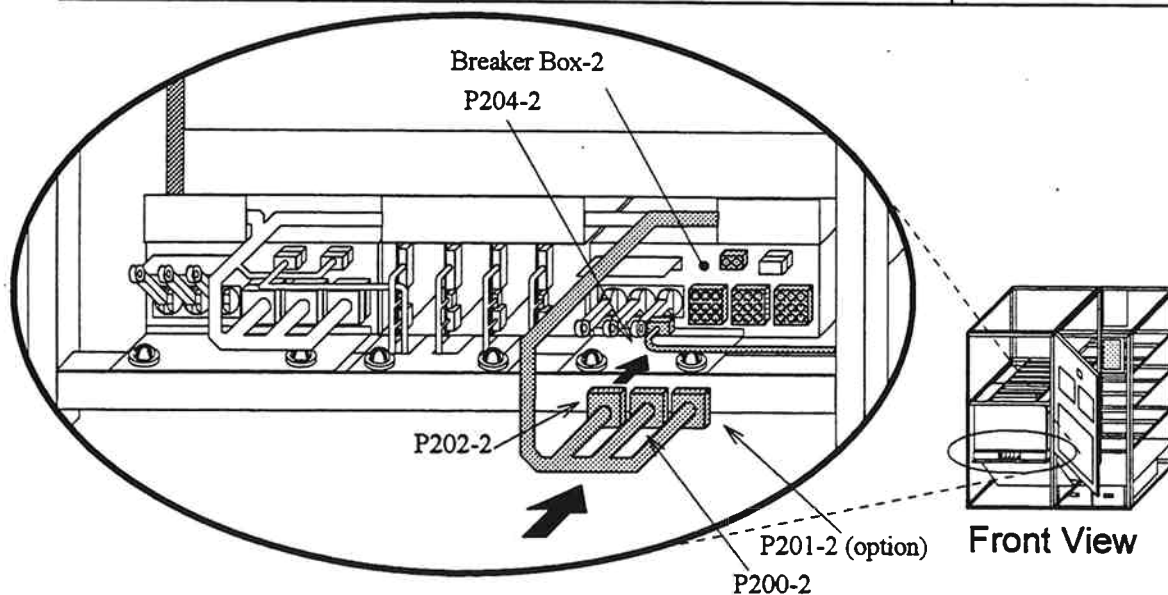

Fig. 7 Cable Connection of Breaker Box-2
c. Connect the connectors. Refer to Table 2 and Fig. 7.